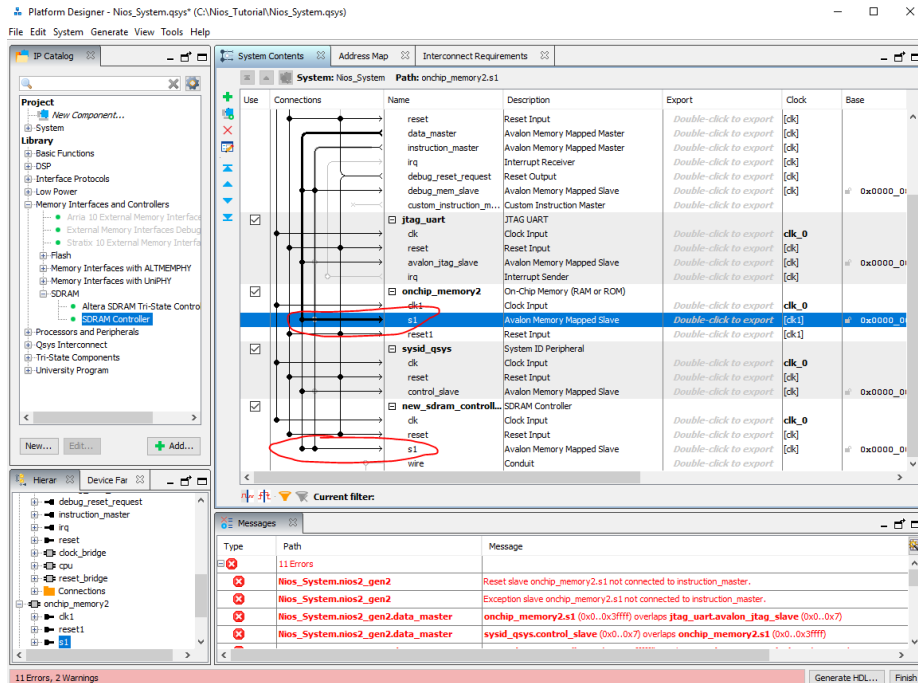
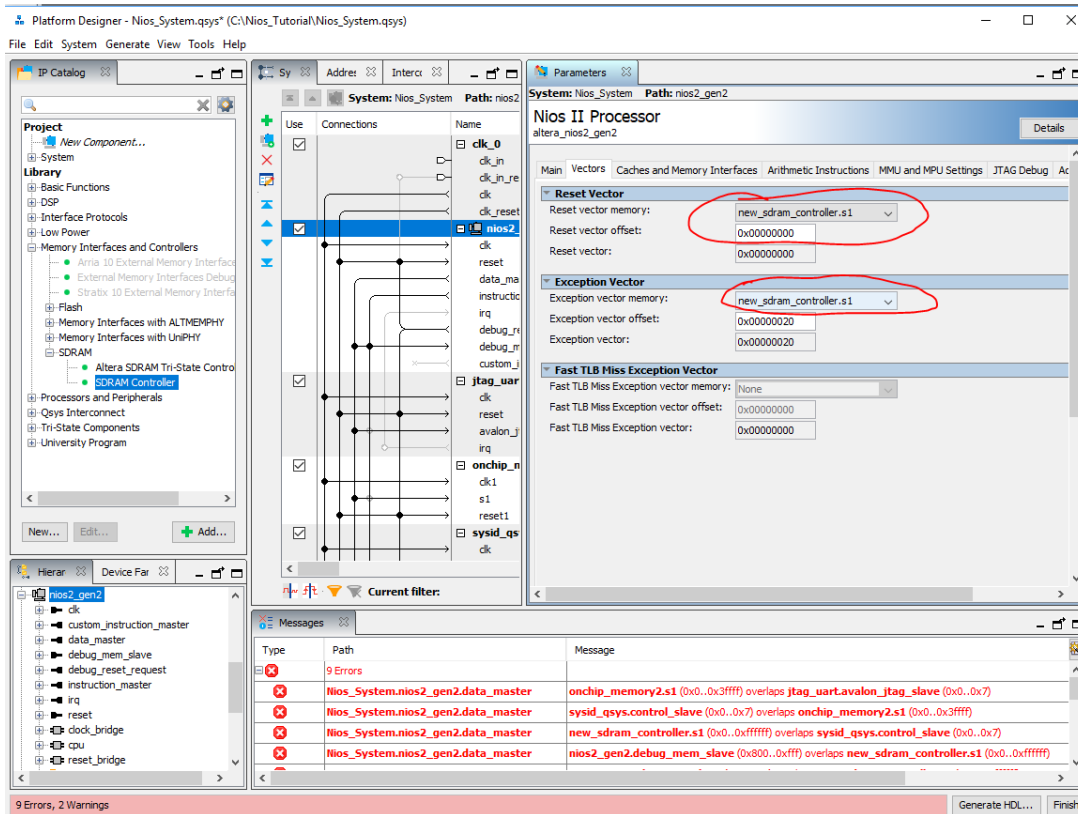

Figure 1-25 Connecting SDRAM to instruction master
Figure 1-26 Changing CPU to use SDRAM
17.) To change the Nios system to use the SDRAM instead of the on-chip memory, we will connect the SDRAM to the instruction master and disconnect the On-Chip memory from the instruction master as shown in Figure 1-25. We will then go to the CPU setting by clicking on the Nios component and changing the Reset and Exception Vectors to the SDRAM shown in Figure 1-26.